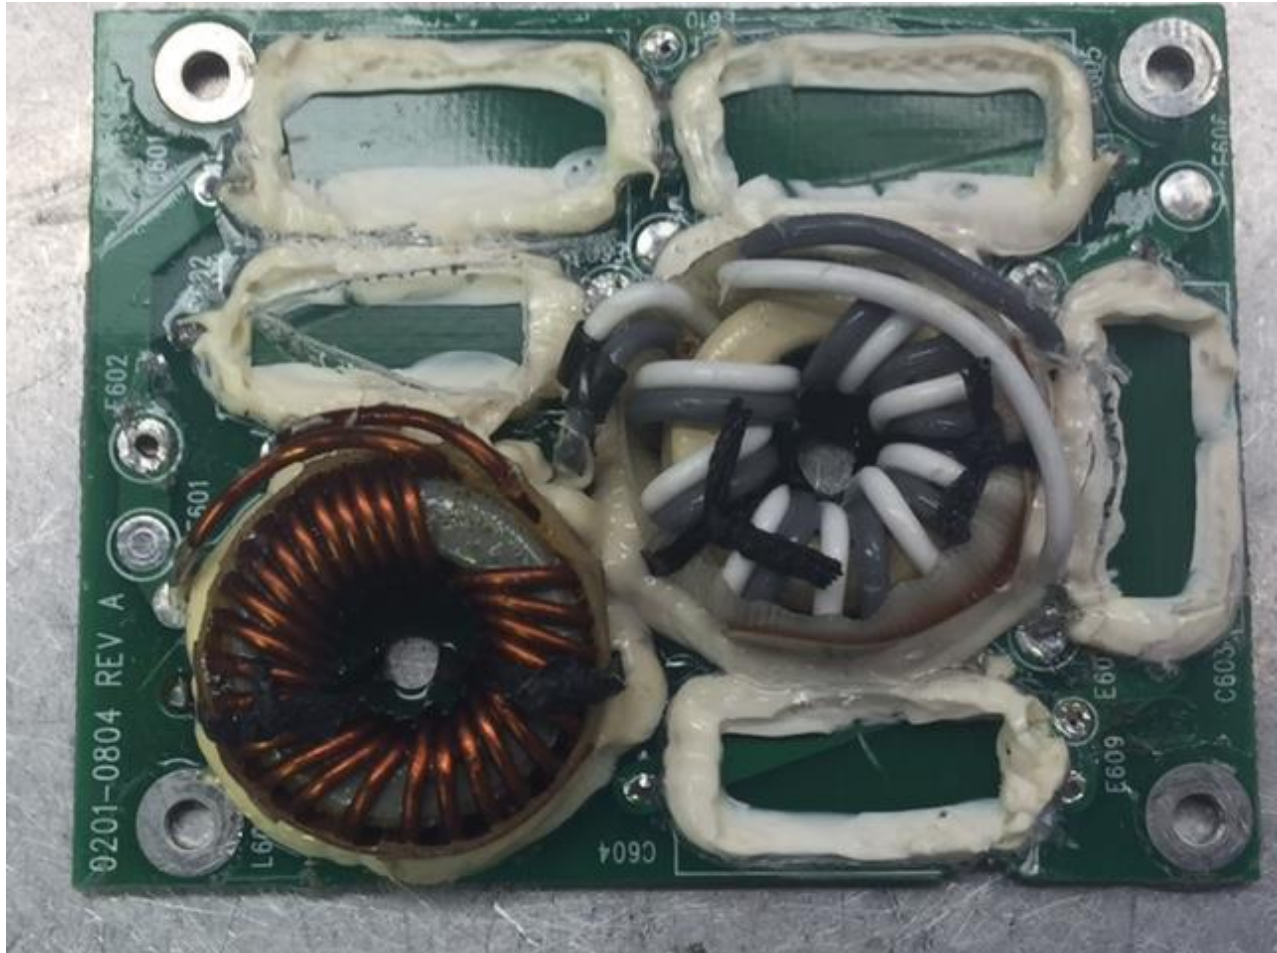

Figure 14
7. Remove capacitors by cutting leads with a cutter. (Figure 14).